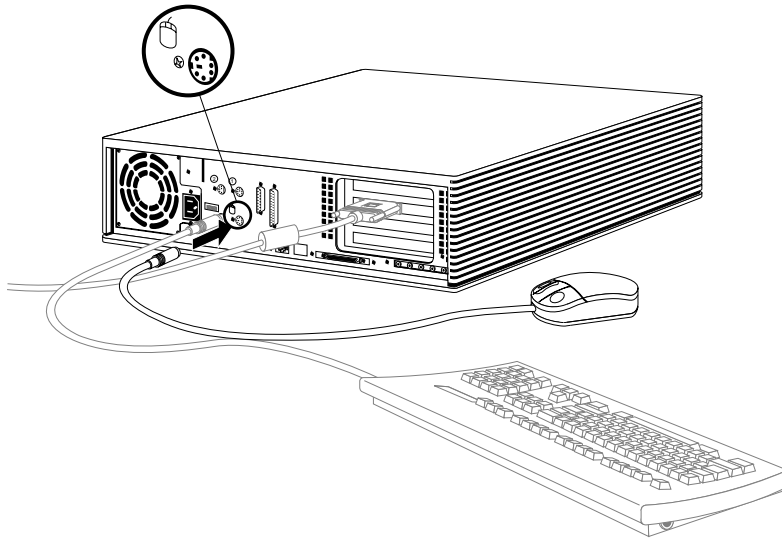

Figure 2-11 Connecting the Mouse Cable to the Indigo² Chassis
3. Connect the mouse cable to the connector below the mouse icon on the back of the Indigo² chassis, as shown in Figure 2-11.